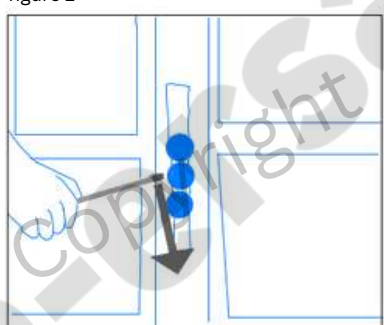

figure 4
4. Then turn your attention to the click fasteners located on the rear panel and the top and open them (figure 4+5).